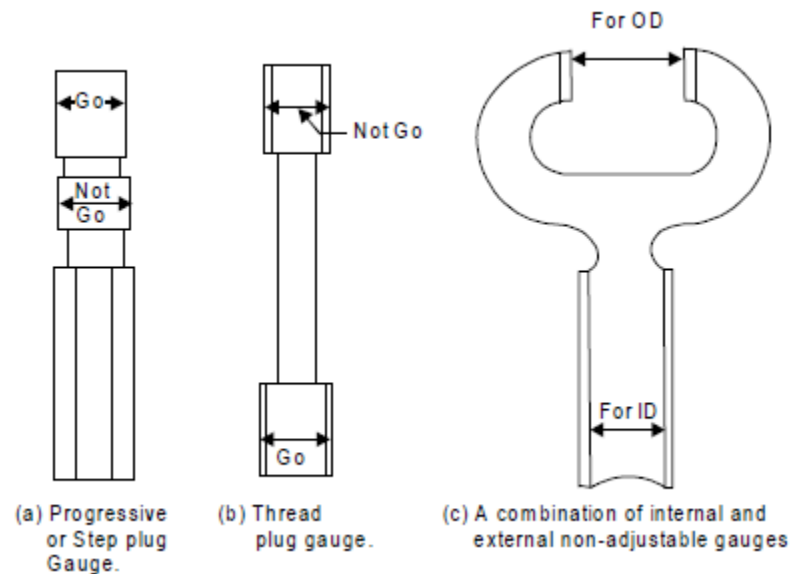

Fig. 27 Types of gauges
1. Progressive or step plug gauge (Fig. 27(a))
2. Thread plug gauge (Fig. 27(b))
3. A combination of internal and external non adjustable gauges (Fig. 27(c))